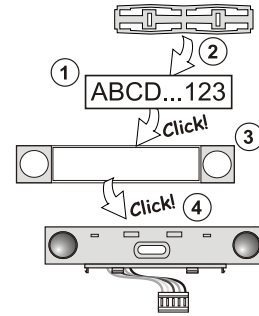

Figure 3: Insertion of a label into a control segment
- When the device is switched on, the yellow backlit activation button (3) starts flashing repeatedly to indicate that the module has not been enrolled into the system.
- Press the backlit activation button (3) – the access module is thus enrolled and the yellow LED indicator goes off.
- When you have completed the installation, insert descriptive labels onto the segment transparent covers and close them, see figure 3. Label printing is a part of the F-Link software (**Devices** window, at the module position – **Internal settings**).